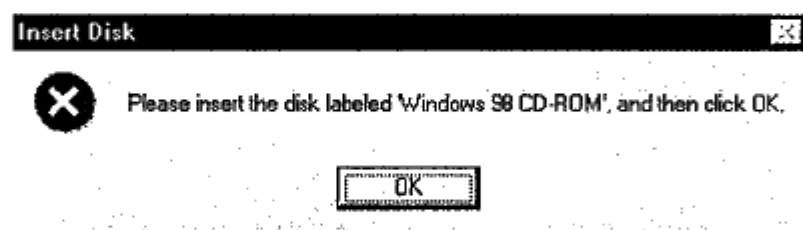

Figure 3-13
7. Windows may attempt to copy part of software from original Windows 98 CD-ROM as shown in Figure 3-13. Please insert the Windows 98 CD-ROM, and then click "OK".